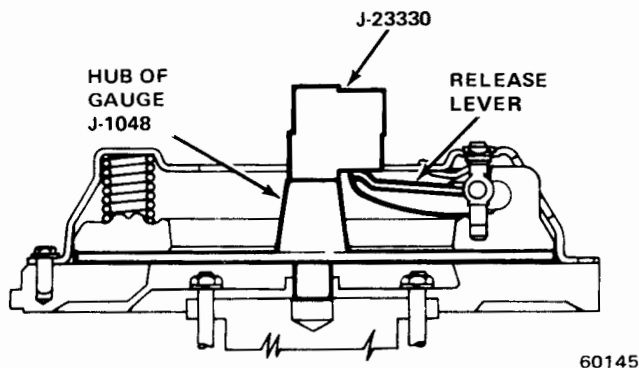

Fig. 5-8 Release Lever Height Measurement
(5) Measure height of each lever relative to gauge hub. Clutch Lever Height Gauge, Tool J-23330, has four different dimensional settings which can be used for measuring above and below hub (fig. 5-8).